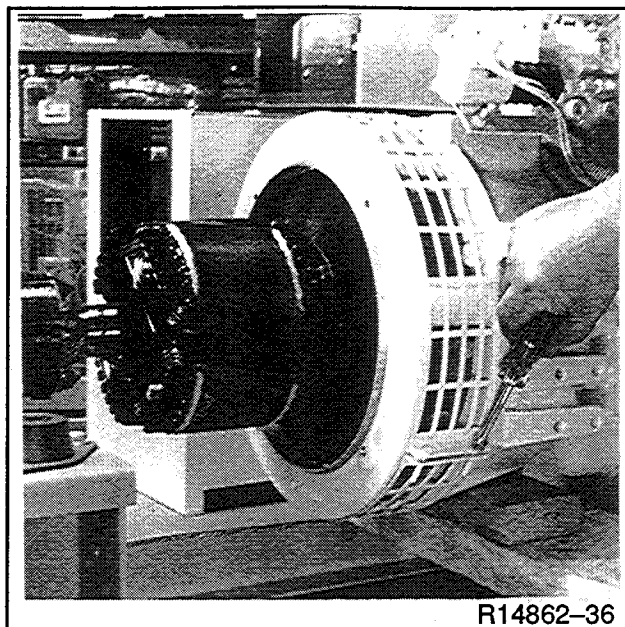

Figure 9-15. Removing Fan Guard
15. Remove two screws securing fan guard on generator adapter. See Figure 9-15.